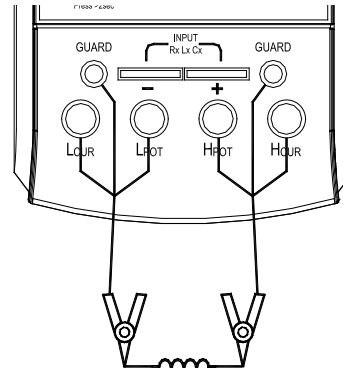

Figure 9
- b. Connect the alligator clips to the ends of the measured inductance (shown in figure 9).